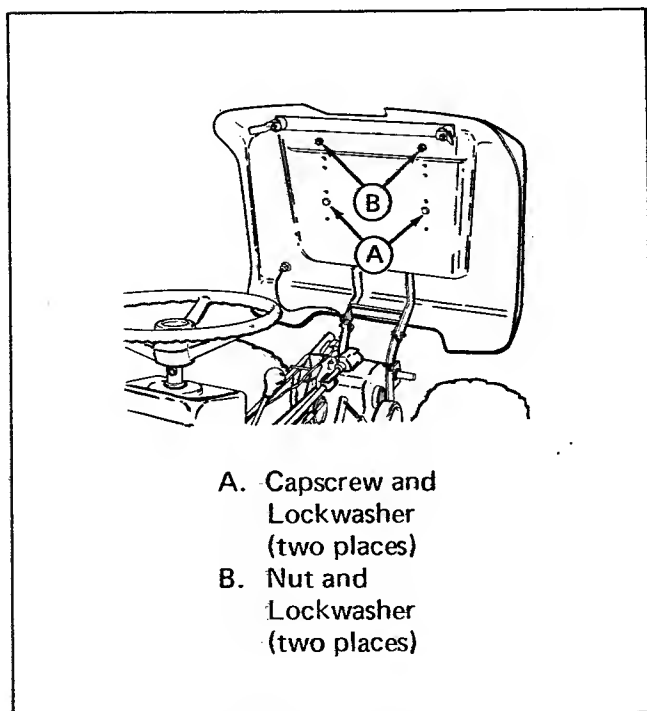

Figure 18. Seat Adjustment
2. Remove the two capscrews and lockwashers (item A, figure 18).